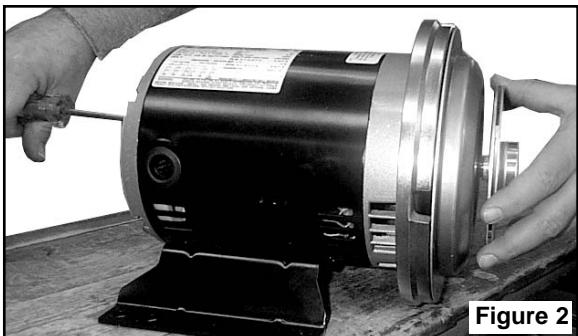

Figure 2
9. Remove motor shaft end cap. Insert a screwdriver in slot of motor shaft. While holding shaft against rotation, unscrew impeller from shaft by turning counterclockwise when facing impeller (Figure 2).